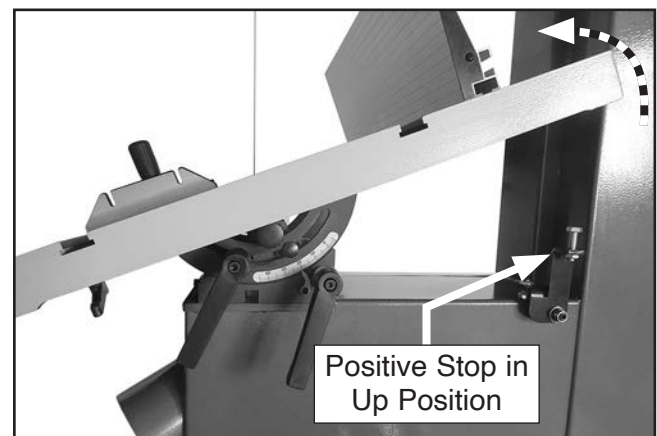

Figure 76. Table tilted to approximately 10°.
The positive stop (see **Figure 76**) allows you to quickly return the table to 0 from a right-tilt setting. The stop can be set to the up position for use, or set to the down position if you choose not to use it. In addition, the positive stop is adjustable, allowing for calibration, or if desired, minor deviations from 0.
2. Tilt table to approximately 10° right-tilt (see **Figure 76**).
3. Rotate positive stop to up position (see **Figure 76**).
2. Set positive stop to up position (see **Figure 76**).